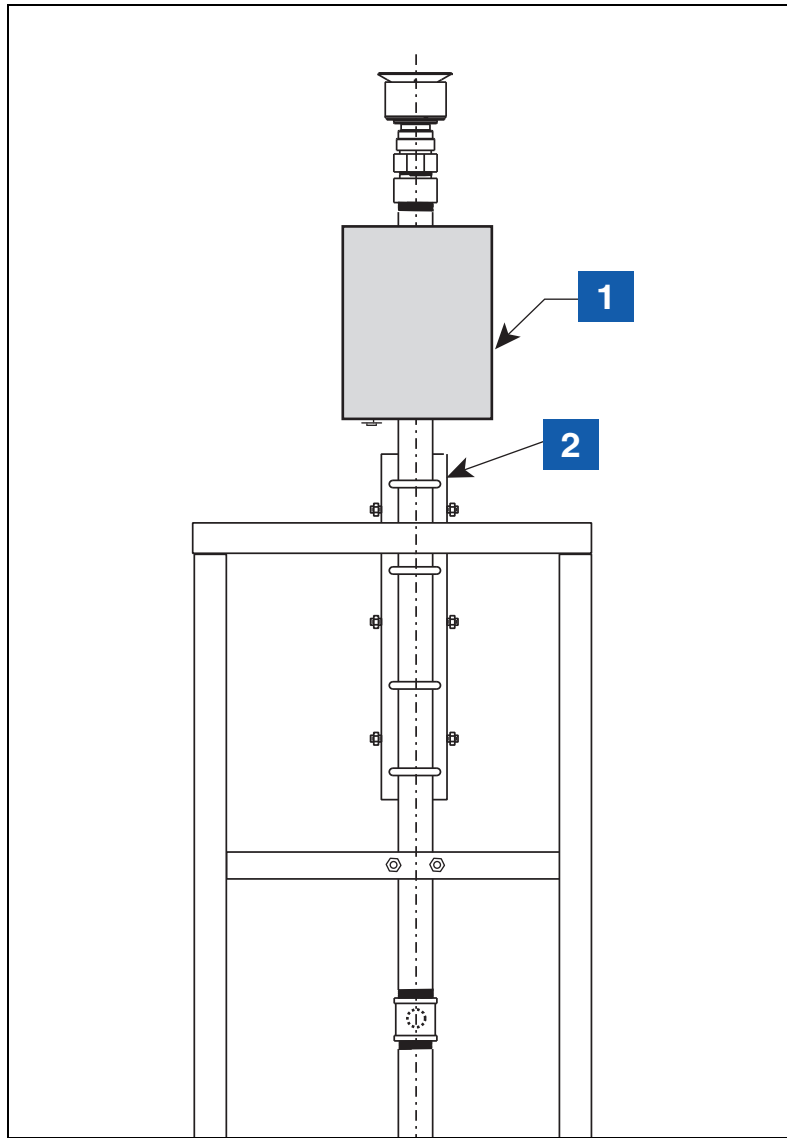

Figure 26. Example CCVP Installation
3. A Transmitter/battery pack pair must be installed for the Veeder-Root Carbon Canister Vapor Polisher (CCVP) in a weatherproof enclosure mounted on the vent stack (see Figure 26).
LEGEND FOR NUMBERED BOXES IN Figure 26